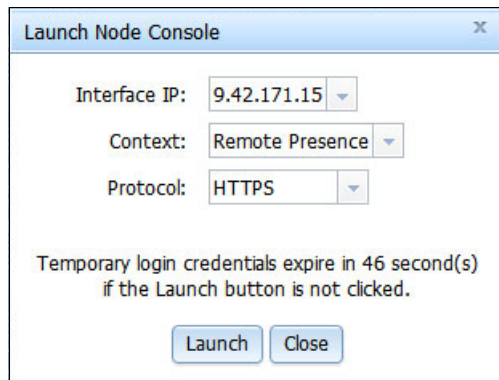

Figure 6-2 Launch Node Console window
2. The Launch Node Console window opens. Select **HTTPS** in the Protocol field and click **Launch**, as shown in Figure 6-2.